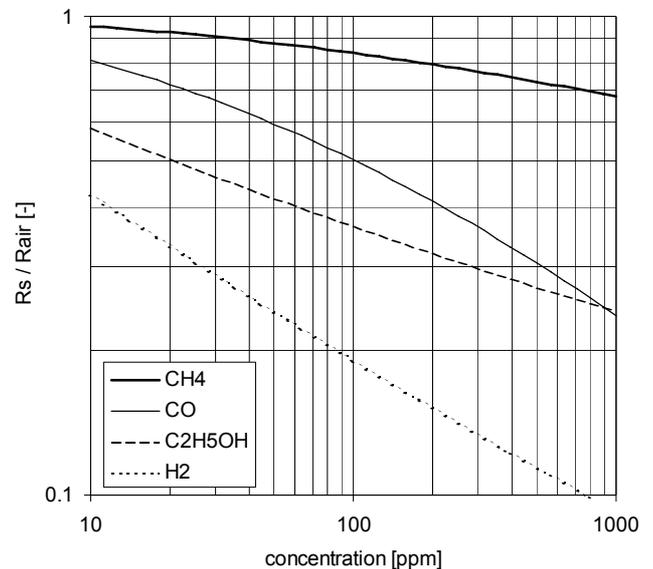

Fig. 6: Sensitivity to CO, H₂, CH₄, and C₂H₅OH at 25 °C and 50% RH
Fig. 6 shows the sensitivity of the MiCS-2610 to CO, H₂, CH₄ (HC), and ethanol (VOC). Ozone is an oxidising gas and causes an increase of the sensing resistance, whereas most interfering gases are reducing gases and cause the resistance to decrease.